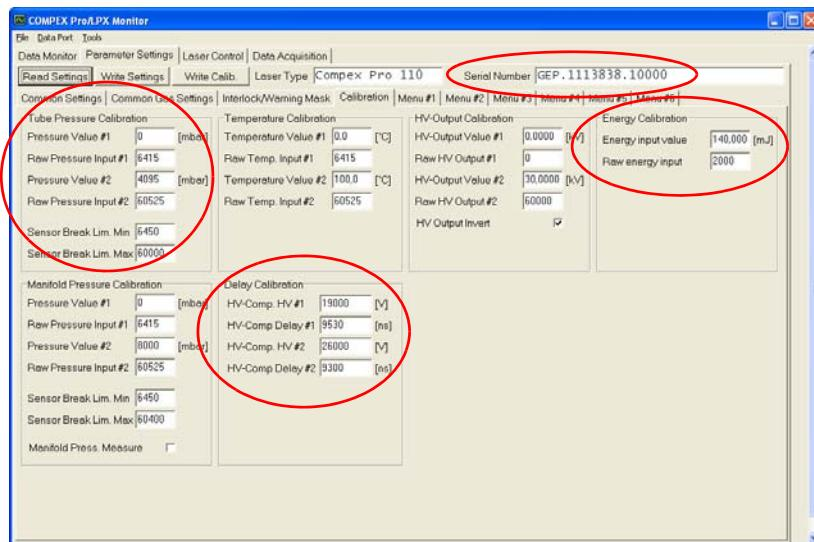

Figure 126: Loading new settings
25. Select the “Calibration” tab and note the “Serial Number” as well as the “Tube Pressure Calibration”, “Energy Calibration” and “Delay Calibration” settings (see Figure 126).